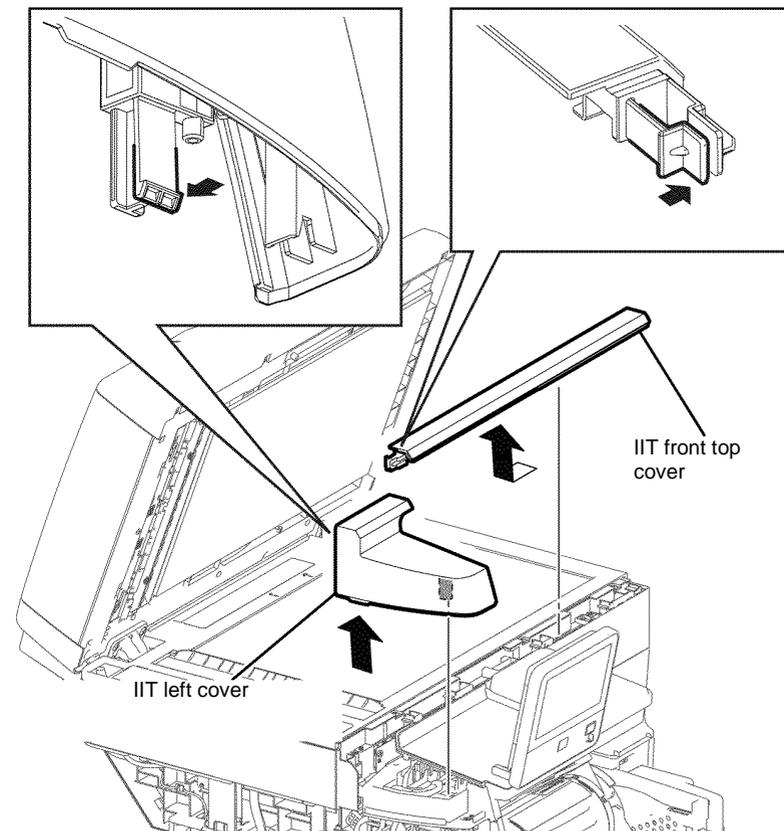

Figure 1 IIT cover removal
2. Remove the IIT left cover, Figure 1.
3. Remove the IIT front top cover, Figure 1.